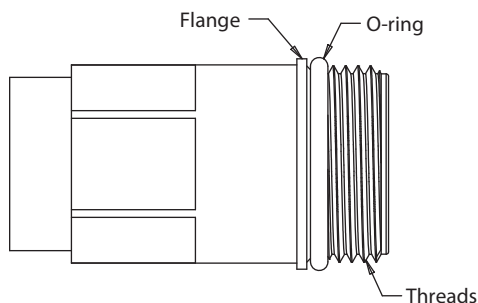

FIGURE 1
- A. Place o-ring onto thread ferrule so that it is seated behind the thread. (Figure 1)